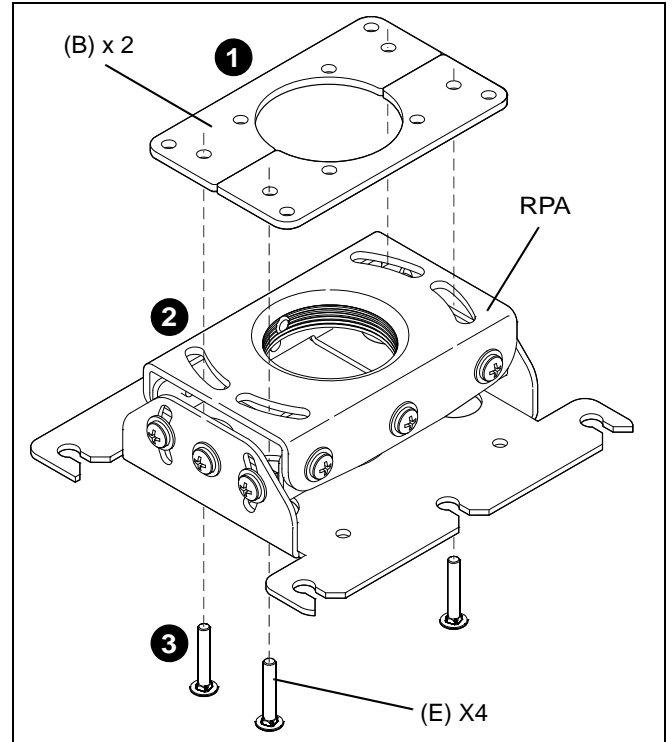

Figure 2
1. Orient two interface plates (B) as shown in figure below.
2. Align mounting holes in interface plates (B) with slotted holes in RPA. (See Figure 2)
3. Secure two interface plates (B) to RPA using four 1/4-20 X 1-1/2" carriage bolts (E) . (See Figure 2)